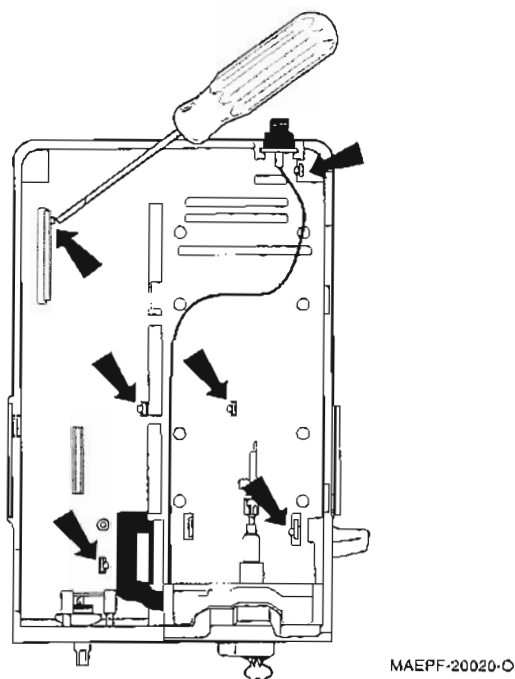

Figure 6. Top View of Bottom Housing
- (m) Referring to Figure 6, and using a small screwdriver, unsnap the six catches that hold the baseplate and the bottom housing together.